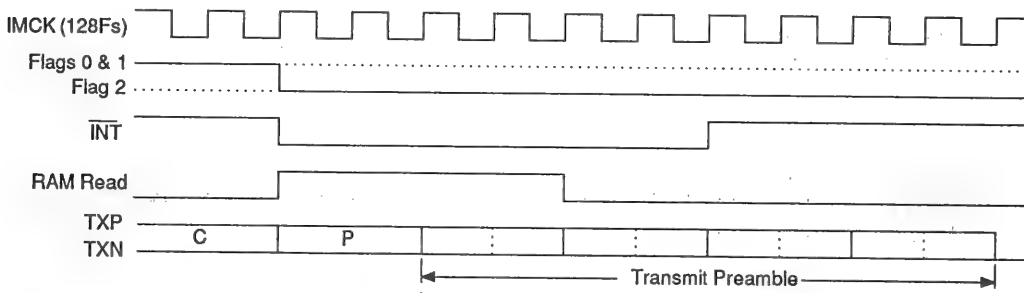

Figure 15. RAM/Buffer-Read and Interrupt Timing
channel status data and 384 audio samples. (This figure assumes the channel status bit is the same for the audio pair.) The lower portion of Figure 11 expands the first byte of channel status showing eight pairs of data with a pair defined as a frame. This is further expanded showing the first sub-frame (A0) to contain 32 bits as per the AES/EBU specifications (see Appendix A). When transmitting stereo, channel A is left and channel B is right. The preamble at the bottom of Figure 11 is expanded in Figure 15 to show the exact timing between flags, the interrupt pin, and internal buffer-read timing.
part is currently reading. Utilizing  $\overline{\text{INT}}$  along with the flags, the byte currently being read by the part can be avoided allowing access to all other bytes instead of just a section. Figure 15 illustrates the timing between flags,  $\overline{\text{INT}}$ , and the internal reading of the buffer for transmission. The master clock IMCK is shown as  $128 \times F_s$ . Other MCK frequencies are initially divided to obtain  $128 \times F_s$ , defined as IMCK (internal MCK), which is then used for all internal timing, so the timing in Figure 15 is valid for all MCK frequencies. When the parity bit (P) is transmitted, a transition on a flag causes  $\overline{\text{INT}}$  to go low if the